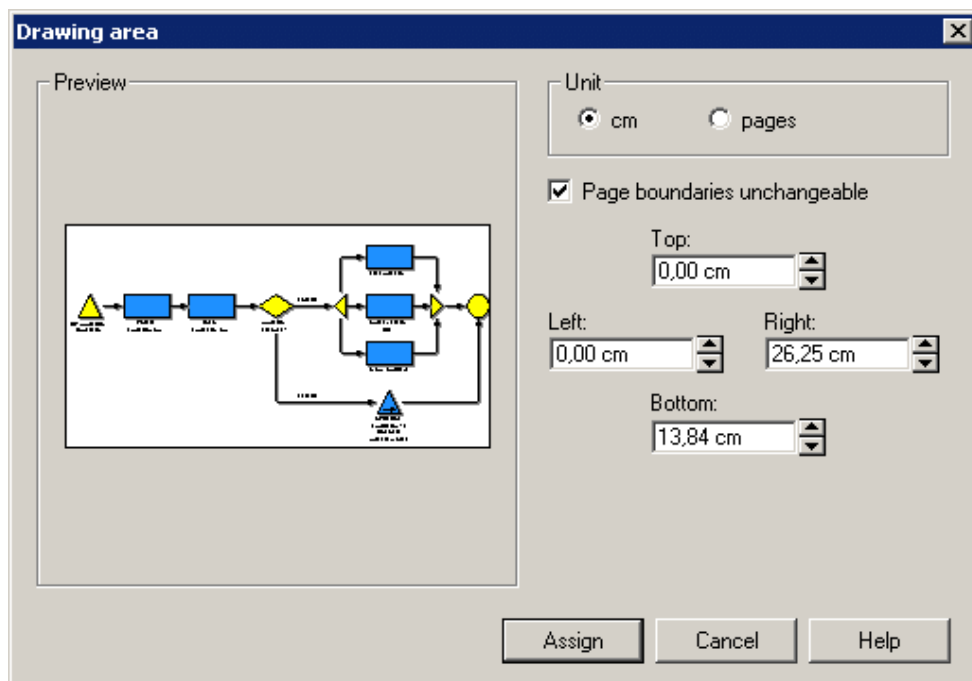

Figure 151: Drawing area
- **Drawing area** to open the window "Drawing area" (see fig. 151), in which you can increase or decrease the size of the drawing area (see chap. 2.2.9, p. 178).
Once this function is called, the window "Drawing area" (see fig. 151), in which you can increase or decrease the size of the drawing area, is displayed.